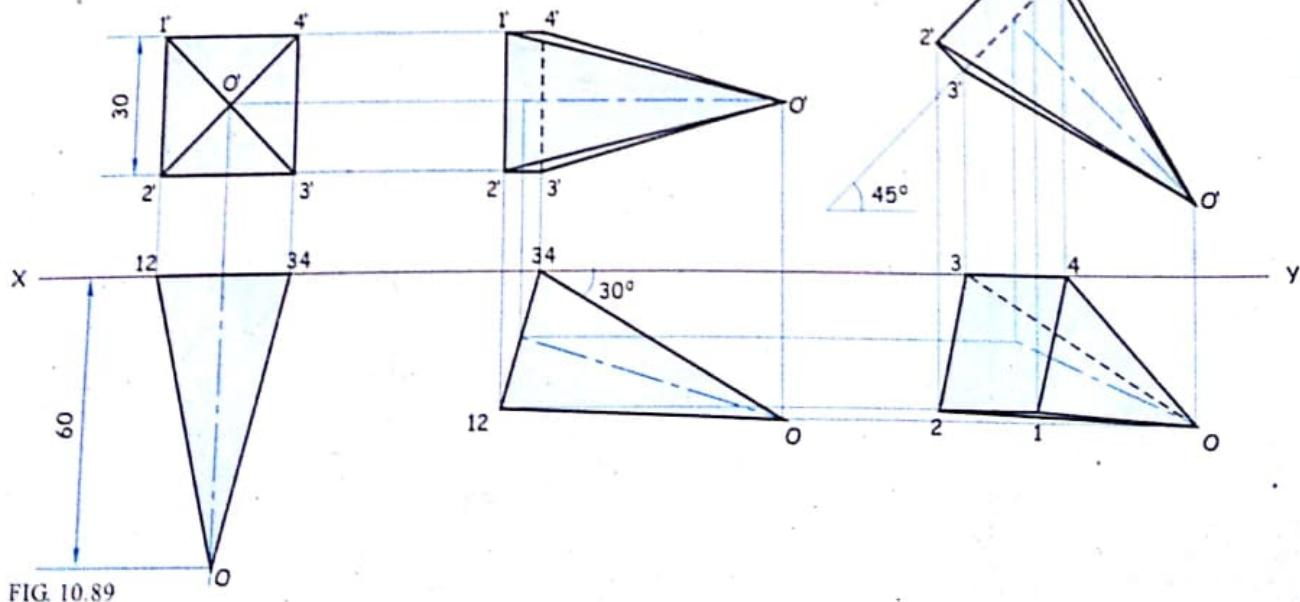

FIG. 10.89
**Solution :** Refer figure 10.89. It is self explanatory.